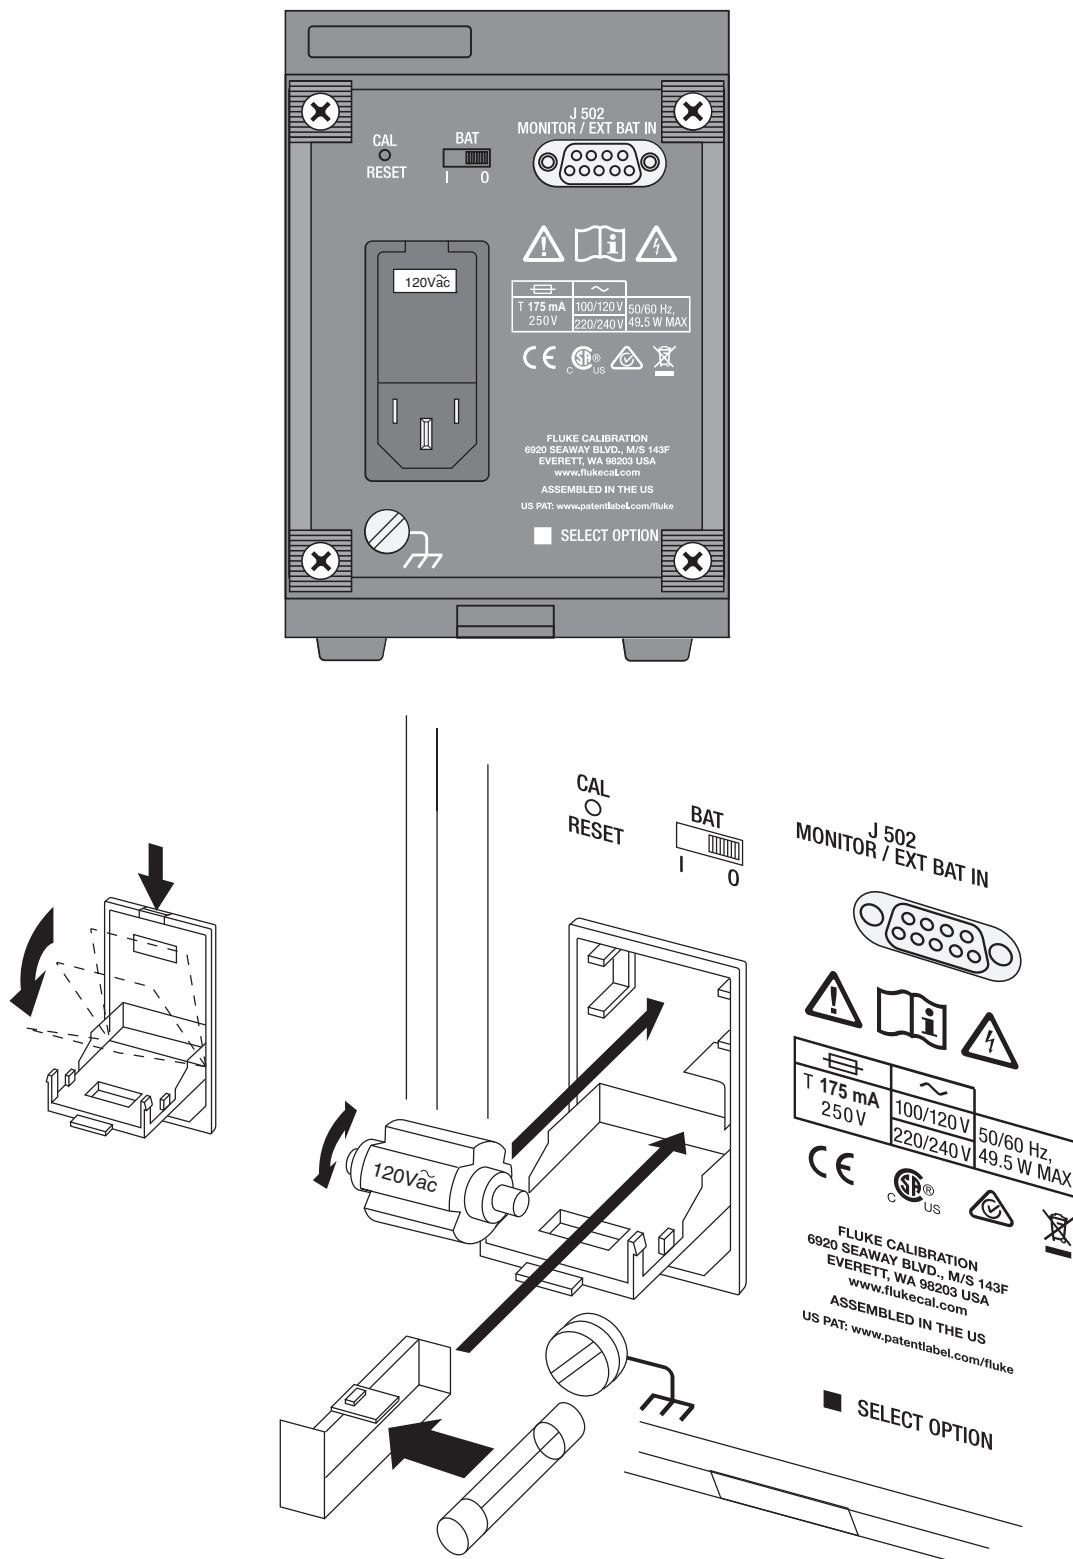

Figure 2. Line Power Label and Fuse Location
To select line voltage and verify the fuse, or to replace the fuse, see Figure 2, and proceed as follows:
4. Verify the fuse type and rating using the data on the rear panel or Figure 2, and replace it.
To install a 732C or 732C-7001 in a 734C-7001 Instrument Enclosure, see Figure 2 and proceed as follows: